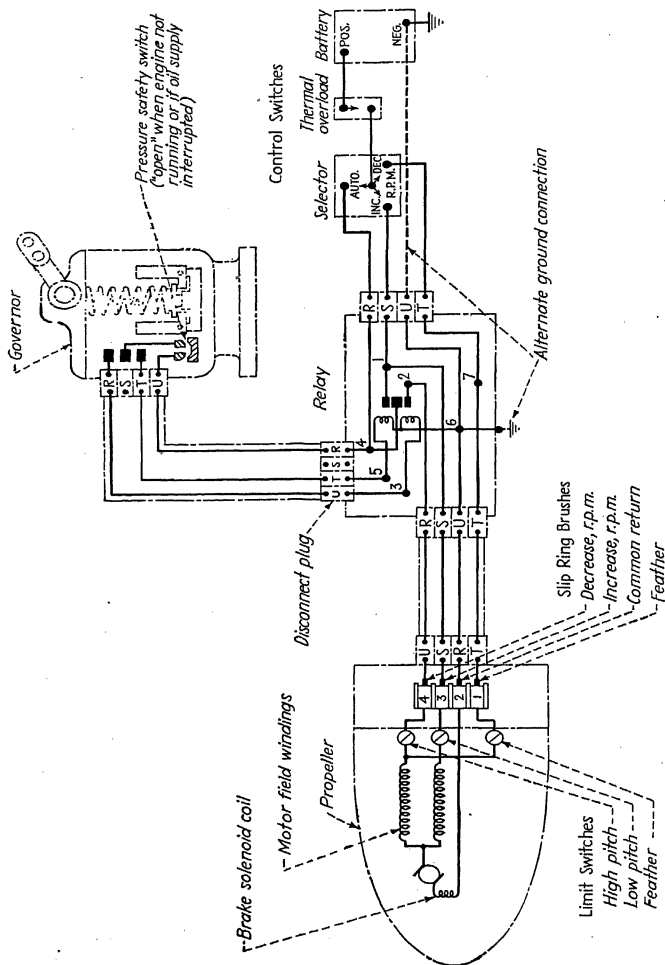

FIG. 75.—Wiring diagram for single-engine installation.
**Wiring and Conduits.**—It is recommended that all propeller wiring be carried in conduits separate from all other airplane wiring. Solid conduits should be used wherever possible, although flexible conduit is normally used from the governor and brush assembly to the relay box in the engine compartment. Figures 75 and 76 show wiring diagrams for both single- and twin-engine planes.